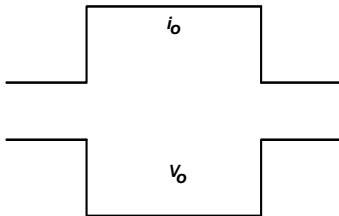
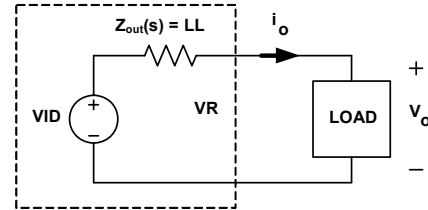

FIGURE 23. DESIRED LOAD TRANSIENT RESPONSE WAVEFORMS
FIGURE 29. VOLTAGE REGULATOR EQUIVALENT CIRCUIT
Assuming the compensator design is correct, Figure 23 shows the expected load transient response waveforms if C_n is correctly selected. When the load current i_{core} has a square change, the output voltage V_{core} also has a square response.
Figure 23 shows the desired load transient response waveforms. Figure 29 shows the equivalent circuit of a Voltage Regulator (VR) with the droop function. A VR is equivalent to a voltage source (= VID) and output impedance $Z_{\text{out}}(s)$. If $Z_{\text{out}}(s)$ is equal to the load line slope LL, i.e., a constant output impedance, then in the entire frequency range, V_o will have a square response when i_o has a square change.